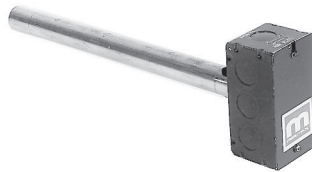

Figure 7. Sensor and Mixing Tube Assembly
- a. For units with sensor and mixing tube assembly (see Figure 7), remove ductwork access panel, slide mixing tube into ductwork, and secure sensor.